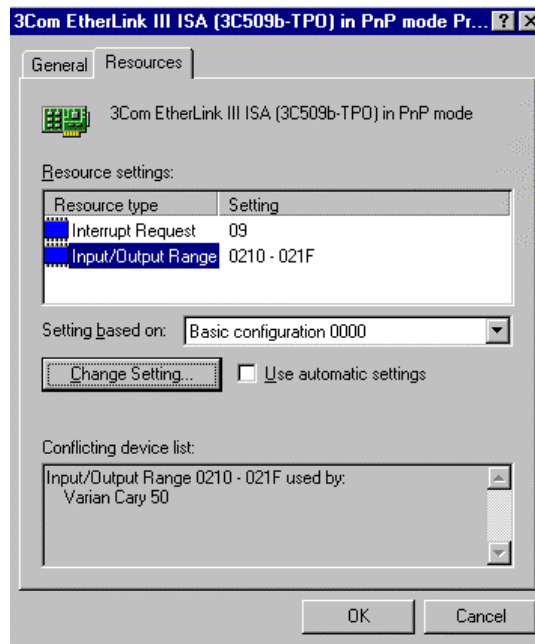

Figure 4-2 Example of Input/Output address conflict with the Cary 50
6. On the Resources tab (see Figure 4-2), deselect the 'Use automatic settings' and change the Input/Output address until the message "No Conflicts" appears in the Conflicting device list.